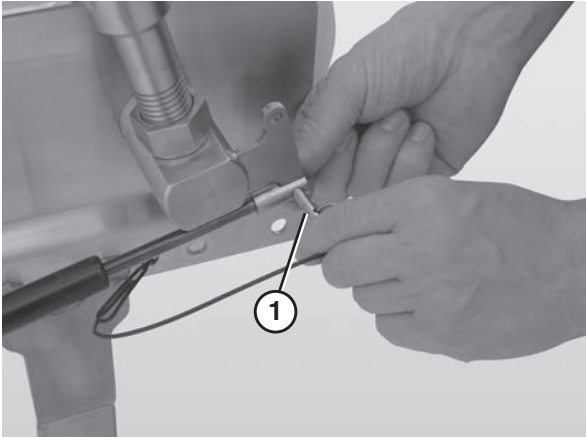

Figure 87
2. Remove the pull pin (**Figure 87, item 1**).